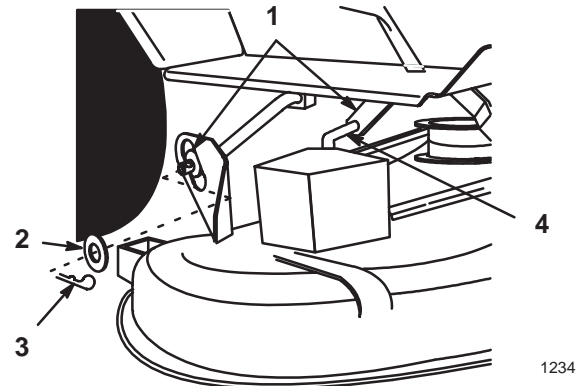

Figure 4
5. Place rear guide bushings, first left side then right, onto lift arms then slide deck left into position (Fig. 4).
6. Secure deck to rear lift arms with washers and hairpin cotters (Fig. 4).
7. Attach rear link to attachment lift with washer and hairpin cotter (Fig. 4).